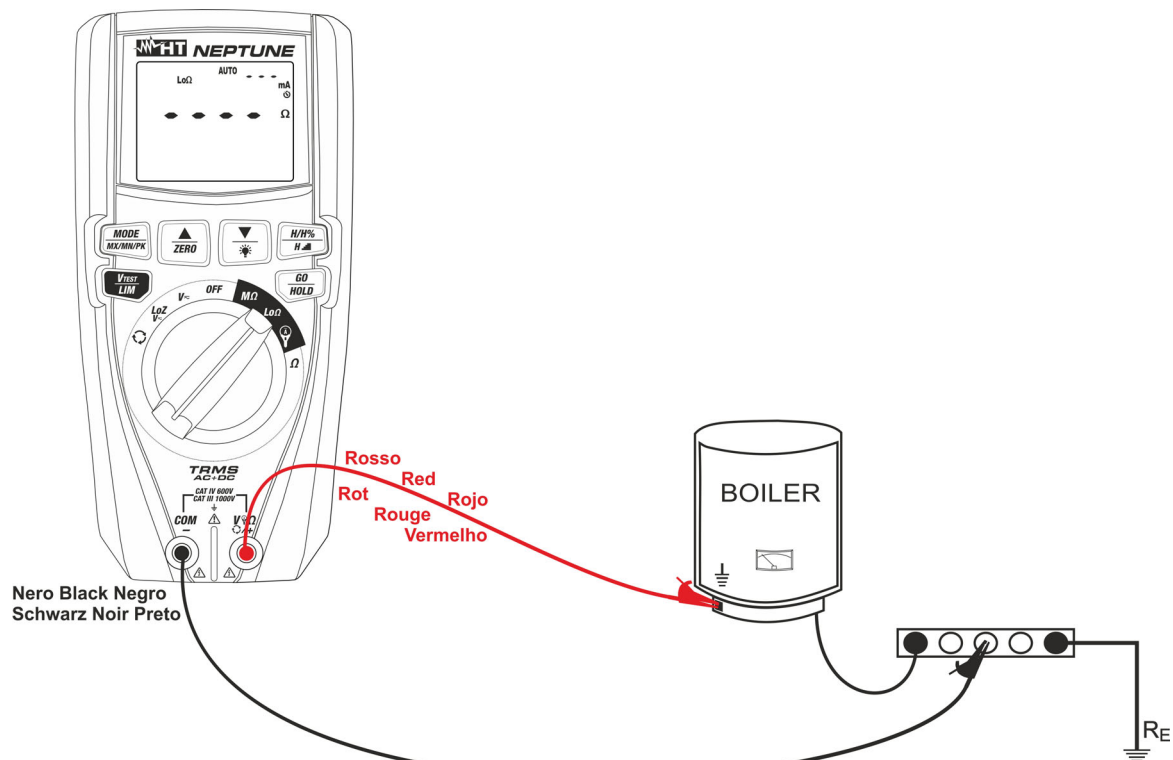

Fig. 25: Use of the instrument for continuity test in AUTO mode
7. Insert the red lead into input terminal **V Ω +/+** and the black lead into input terminal **COM/-**, and connect the instrument to the system to be tested (see Fig. 25).